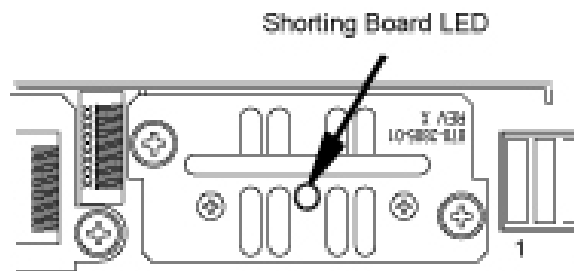

Figure 39: Shorting Board Faceplate, Maintenance Mode
4. Turn the Shorting Board over and reinsert the board into its slot. Note the orientation of the Shorting Board LED (see Figure 39: Shorting Board Faceplate, Maintenance Mode).